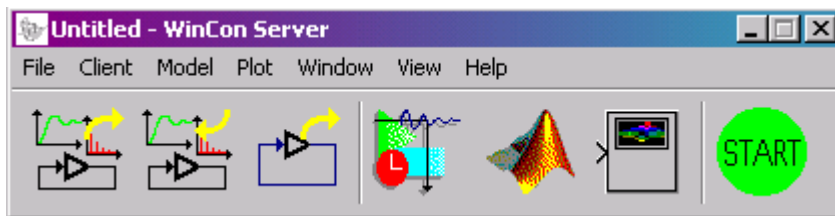
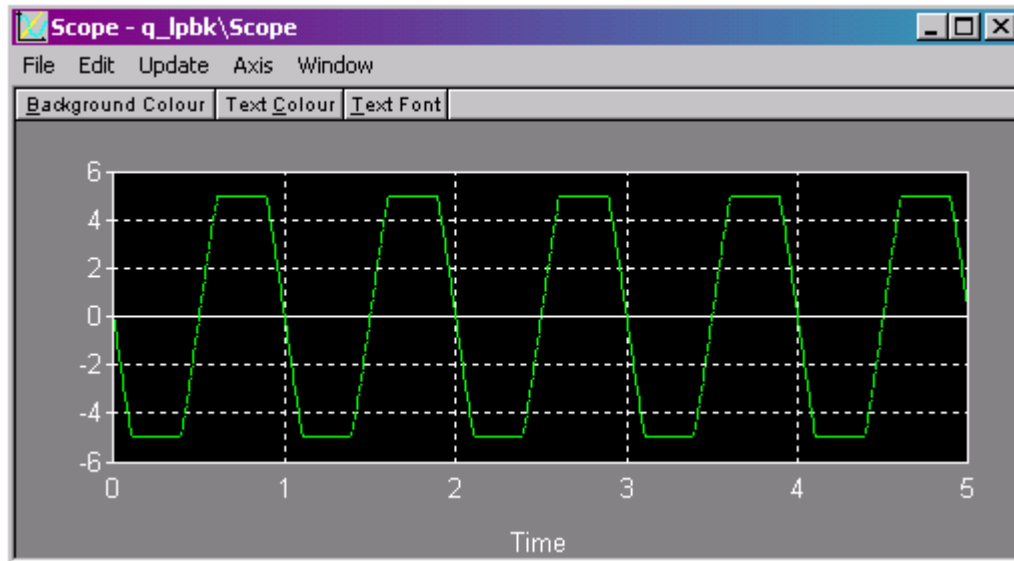

Figure 85 WinCon Server
Figure 86 Clipped Sinosoid
- Click on the **Start** button in the WinCon Server toolbar (shown Figure 85). This action starts the controller, which runs at a sampling frequency of 200 Hz, as set in the Simulink model. Click on the **Open Plot** button in WinCon Server. The names of all displays in the Simulink model diagram appear in a Multiple Select Variable Tree. You can then select the displays you would like to plot. In this case, select **Scope**. You should now see a clipped sinusoid as shown in Figure 86.